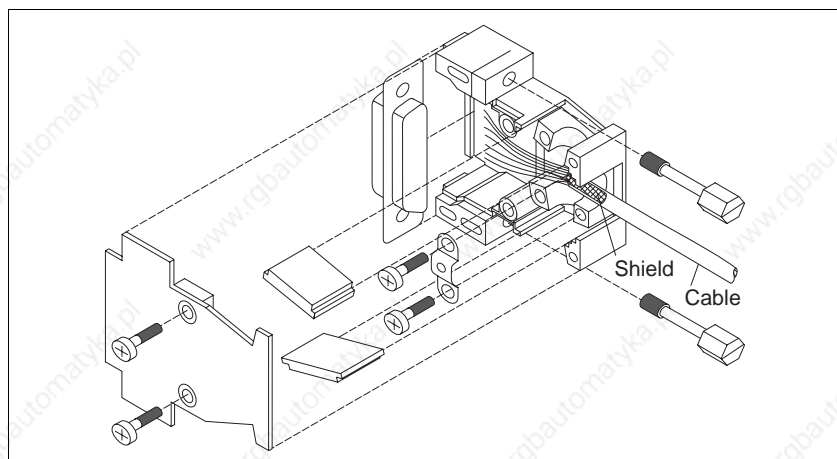

Fig. 2-3 Power controller connector assembly
3. Insert two hexagon head bolts (fig. 2-3) into the connector shell.